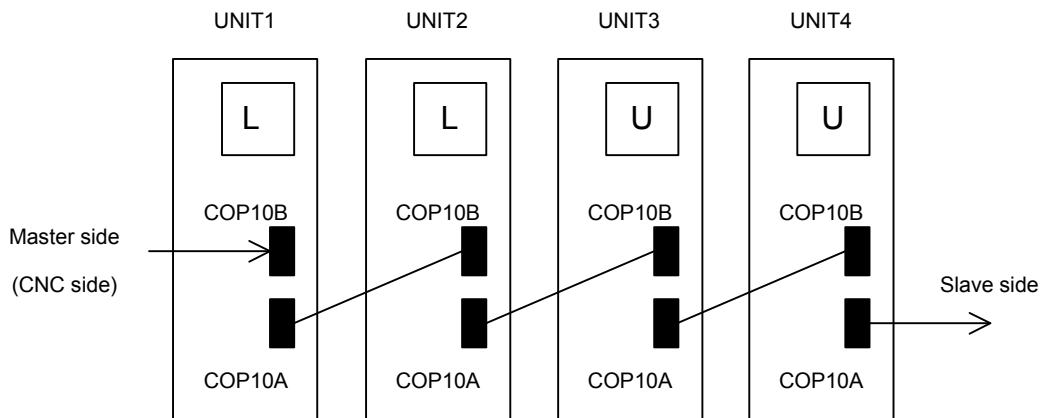

Fig. 3.2.13
(2) Cause and troubleshooting
- (a) Replace the Servo Amplifier optical cable (COP10A) that is farthest to the CNC on which "L" is displayed (in Fig. 3.2.13, the cable between UNIT2 and UNIT3).
(b) Replace the Servo Amplifier that is farthest to the CNC on which "L" is displayed (in Fig. 3.2.13, UNIT2).
(c) Replace the COP10A-side Servo Amplifier that is farthest to the CNC on which "L" is displayed (in Fig. 3.2.13, UNIT3).